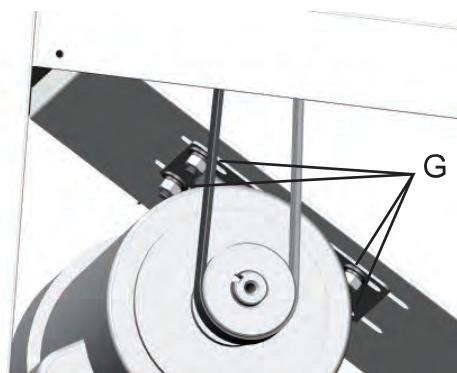

Fig. 29
6. Check that the motor pulley and machine pulley are aligned; this will keep the belt vertical and help prevent excess wear on it. If adjustment is necessary, loosen the set screws in the motor pulley using a hex wrench, and slide the pulley as needed until alignment is achieved. Re-tighten set screws. If the pulleys are not aligned, try to adjust the motor position by motor mount screws (G), Fig. 29 to make sure pulley alignment.